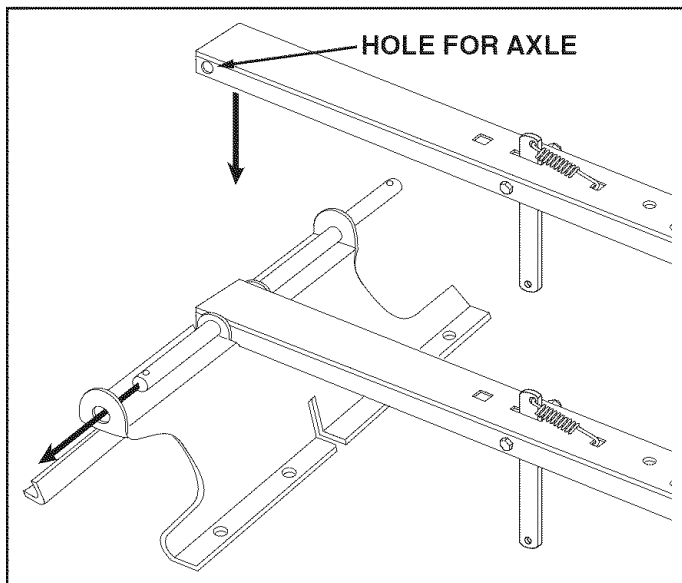

FIGURE 2
3. Assemble the rear tongue to the wheel support by sliding the axle through the holes in the tongue and wheel support as shown in figure 2.